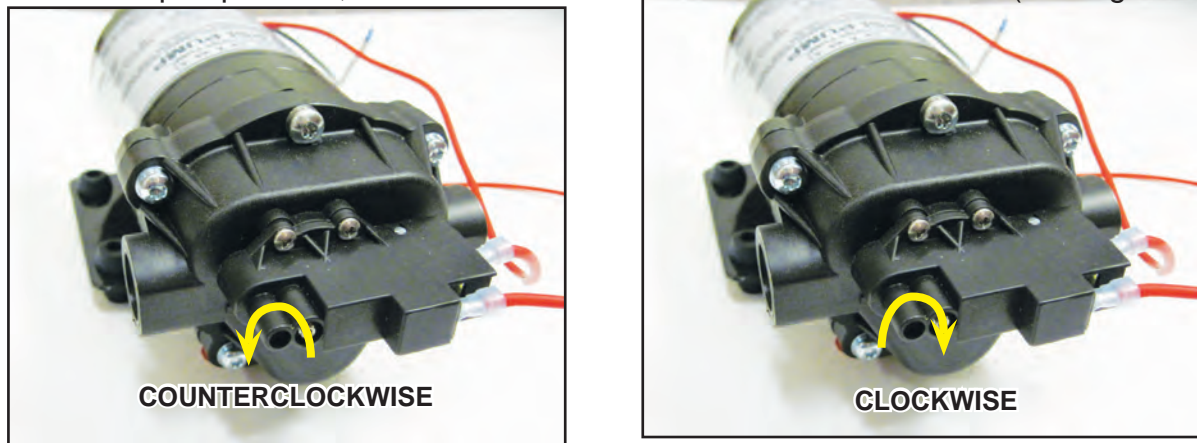

Figure 100. Insert Hex L-Key and Turn It Counterclockwise/Clockwise
1. If the pump continues to run for longer than 3 to 5 seconds, turn the screw counterclockwise until the pump switches off (see Figure 100).